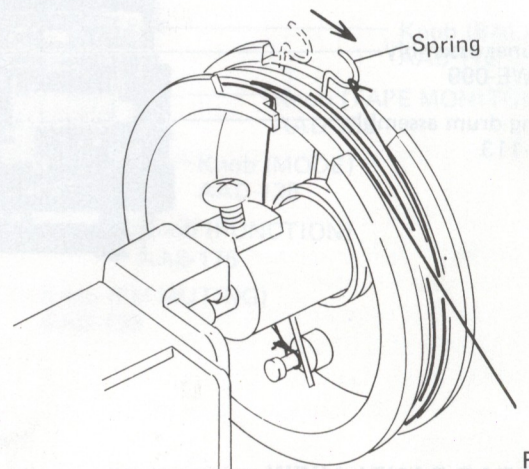

Fig. 7
8. Tie the other end of the string to the hook on the spring, so that the string is tensioned, after passing it around the tuning drum twice (Fig. 7). Set the tuning capacitor to its maximum capacity (with the vanes fully meshed).